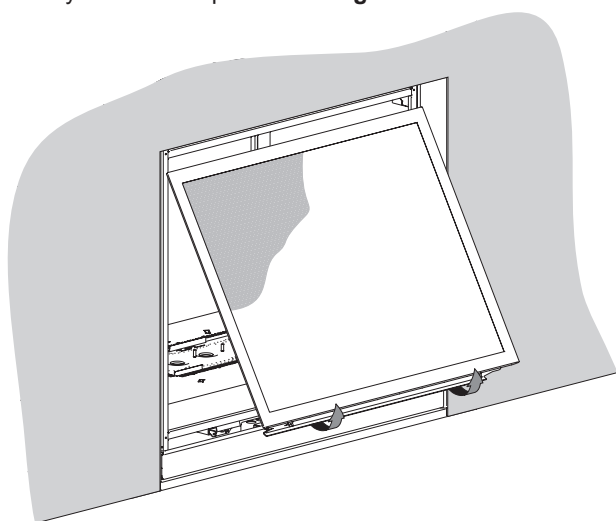

Figure 59
2. The two glass spring-latches are on the bottom of the glass frame. Release them by pulling them away from the fireplace and down. Remove the screen frame and glass frame as a unit (separating them is not necessary) by lifting them up and away from the fireplace. **See Figure 59.**